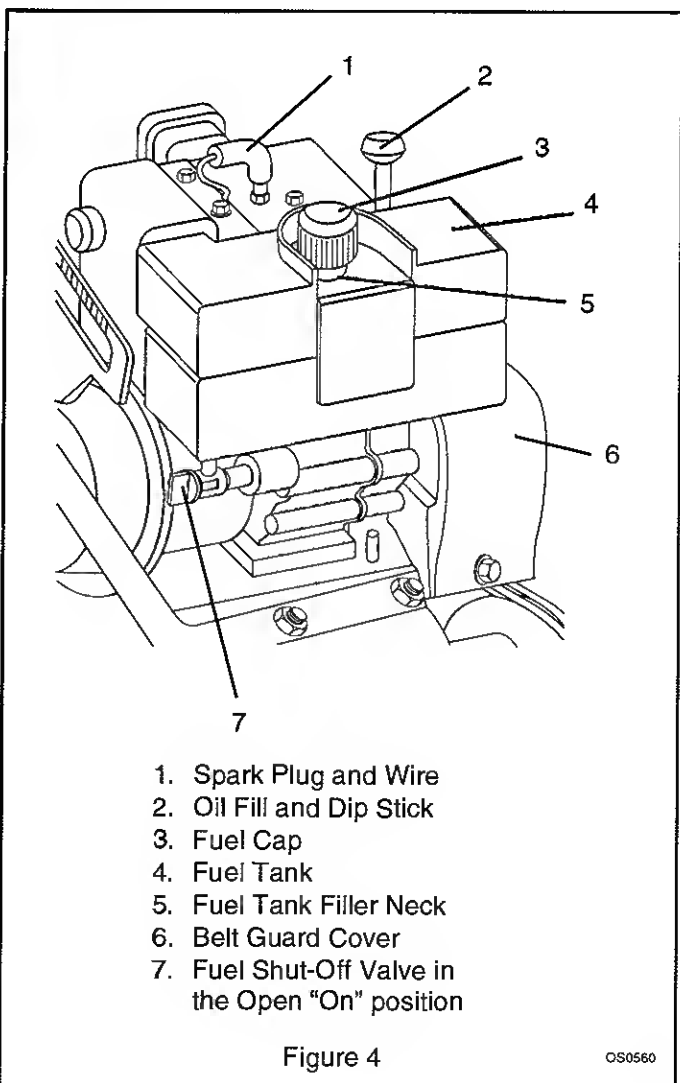

Figure 4
3. Clean Fuel Cap and surrounding area to prevent dirt from entering Fuel Tank (Figure 4).
The unit must have the Fuel Shut-Off Valve in the "Open" position for proper fuel delivery to the engine during normal operation (Figure 4).